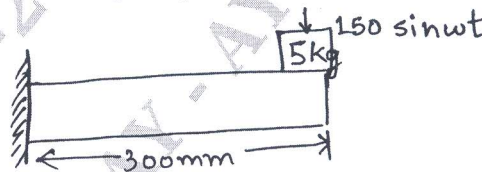

Fig. Q4(b)
- 4 a. What do you mean by forced vibration and explain term magnification factor (MF) with usual mathematical notation. (04 Marks)
b. A 5 kg mass is placed at the end of a 300 mm long steel beam as shown in Fig.Q4(b) the Young's modulus of elasticity of steel is 200 GPa and the moment of inertia of beam 10^{-8} m^4 . When the system is excited by a harmonic excited force of 150 N, an amplitude of 0.5 mm is observed. Find the frequency of excitation.